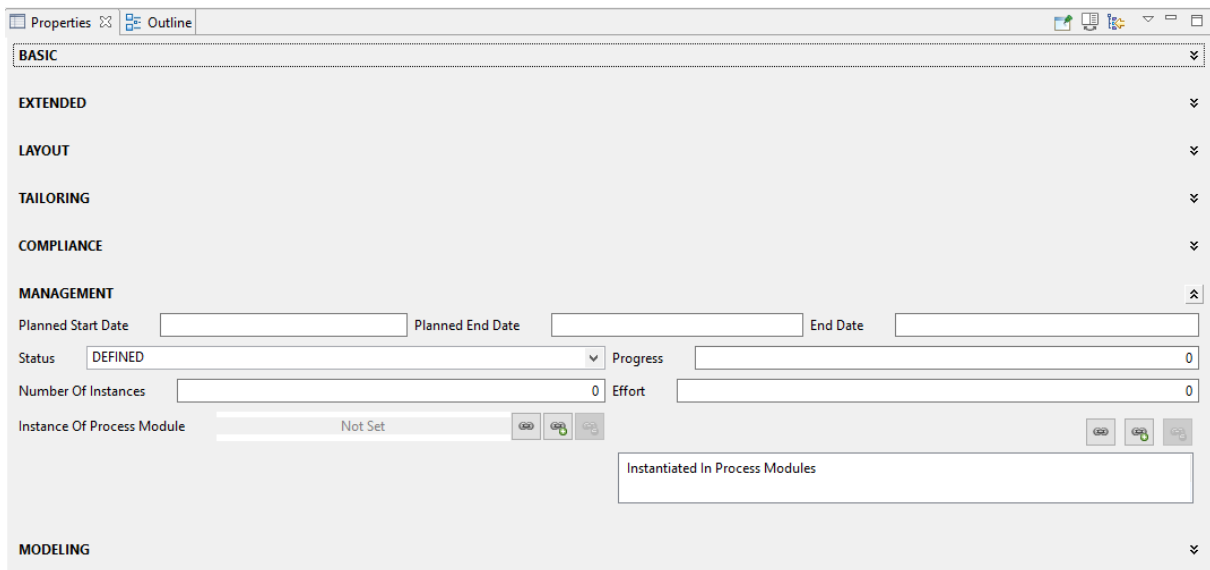

Figure 35: EMF Forms Property View of Process Module
- 2) An EMF Forms based with groups of properties that can be collapsed (see Figure 35)
The EMF Forms of all elements have the similar property categories that are represented by “collapsible groups”, see Figure 35.